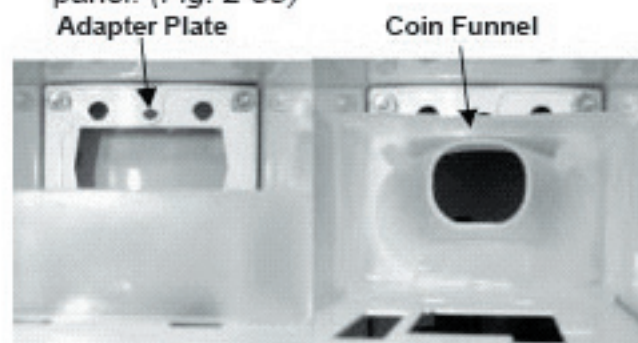

Fig. 2-38
4. Release the coin funnel from the meter case by releasing the plastic retaining clips and turning the funnel up as shown, then remove the funnel through the timer access panel. (Fig. 2-38)